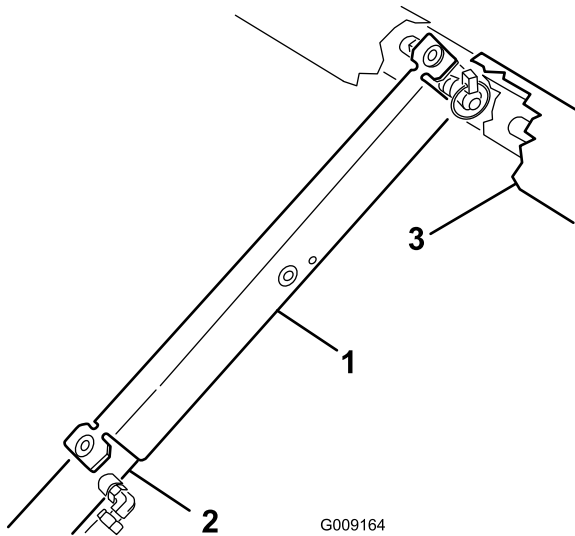

Figure 2
- C. Push the bed support onto the cylinder rod, ensuring that the support end tabs rest on the end of the cylinder barrel, and on the cylinder-rod end (Figure 2).